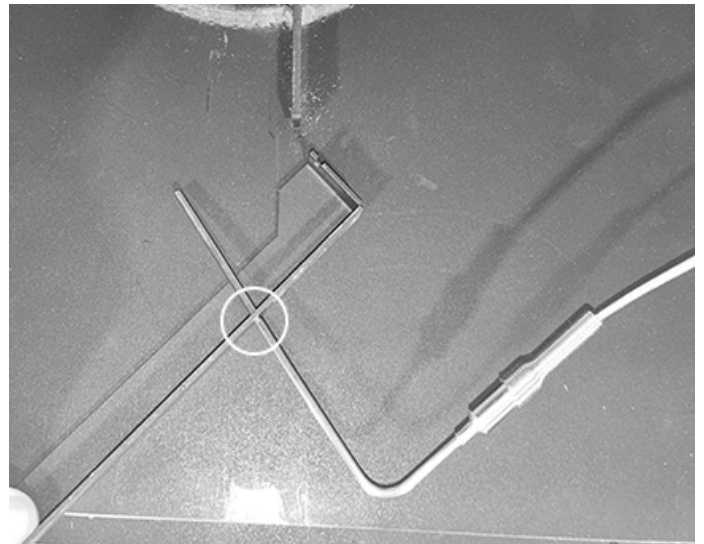

Figure 14: Remove thermocouple.
7. Rotate the thermocouple counter clock-wise to disengage it from the thermocouple guide then pull it out of the hole in the guide. Figure 14